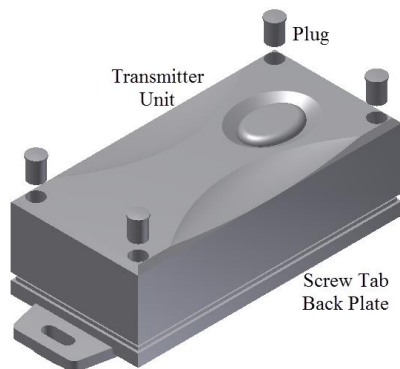

Figure 21
2. Unscrew the four screws holding the flat back plate to the transmitter unit using the screw driver provided and remove the flat back plate from the assembly. Re-assemble the transmitter unit to the screw tab back plate (figure 21).